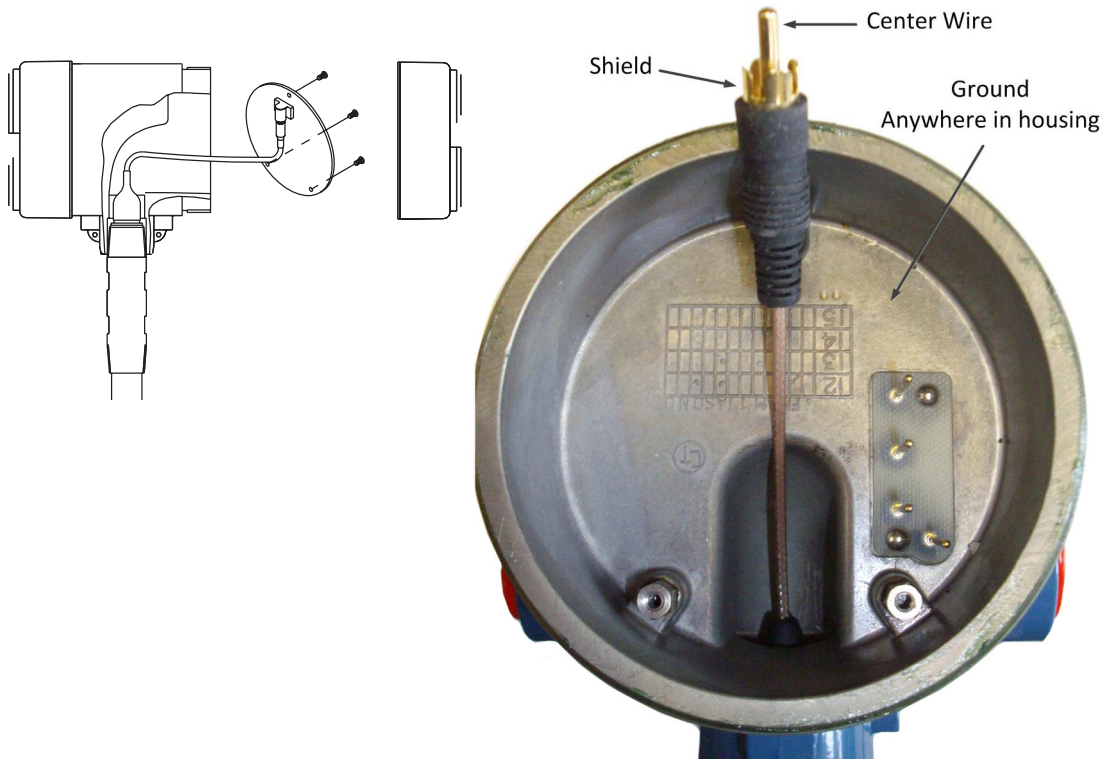

Figure 4-1
Integral electronics, ref figure 4.1:
2. Use an analog ohmmeter¹ that is set to the R x 1K ohm scale. Measure the resistances between each pair of sensing element connections. See Figure 4.1 & 4.2. Record values in Table 4.1